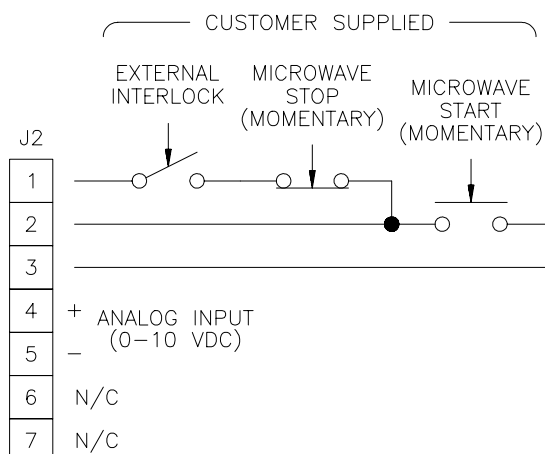

Figure 3, Typical remote control connections.
Remote control and interlock connections are made to the 7-conductor circular plastic connector (J2) located on the rear panel of the control module. Figure 3 illustrates a typical configuration using standard relay or switch devices. The “Stop” device should be normally closed (NC) and the “Start” device should be normally open (NO). Both devices should dry contact momentary operation (non-latching) devices rated for 120 VAC, ¼ Amp.